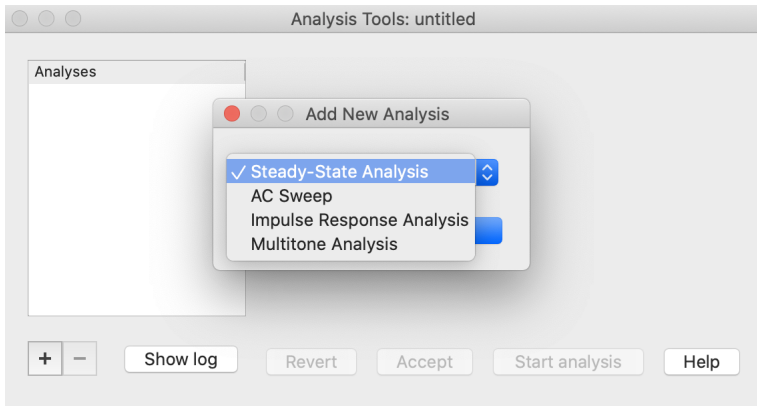

Figure 4: Analysis Tools dialog
- 1 Open the Analysis tools dialog box from the **Simulation + Analysis tools...** menu. Click on the **+** icon on the lower-left side to add a new analysis and choose Steady-State Analysis from the drop-down menu, as shown in Fig 4. Because the model features two periodic sources (the Sine Wave and Symmetrical PWM blocks) set the **Operating point** to periodic in the **Setup** tab.